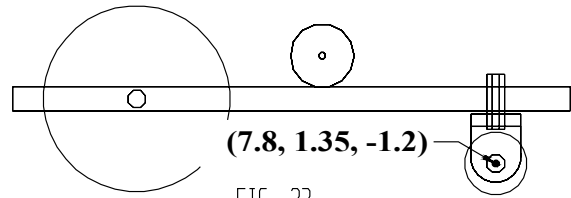

FIG. 23
Step 13. In the Side View, move cursor to coordinates **(7.8, 1.35, -1.2)** and click for the center of the front wheel, **Fig. 23**.